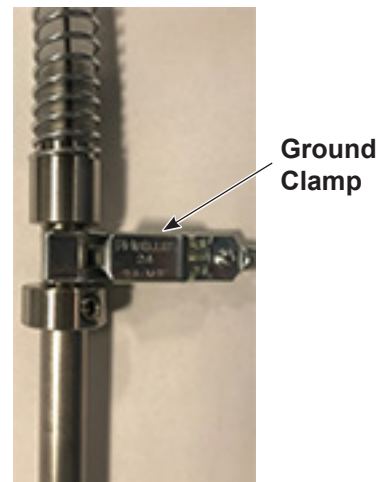

Figure 10 Install Ground Clamp
3. See Figure 10. Attach the other side of the ground wire with the ground clamp to the pipe of pickup tube above the collar.